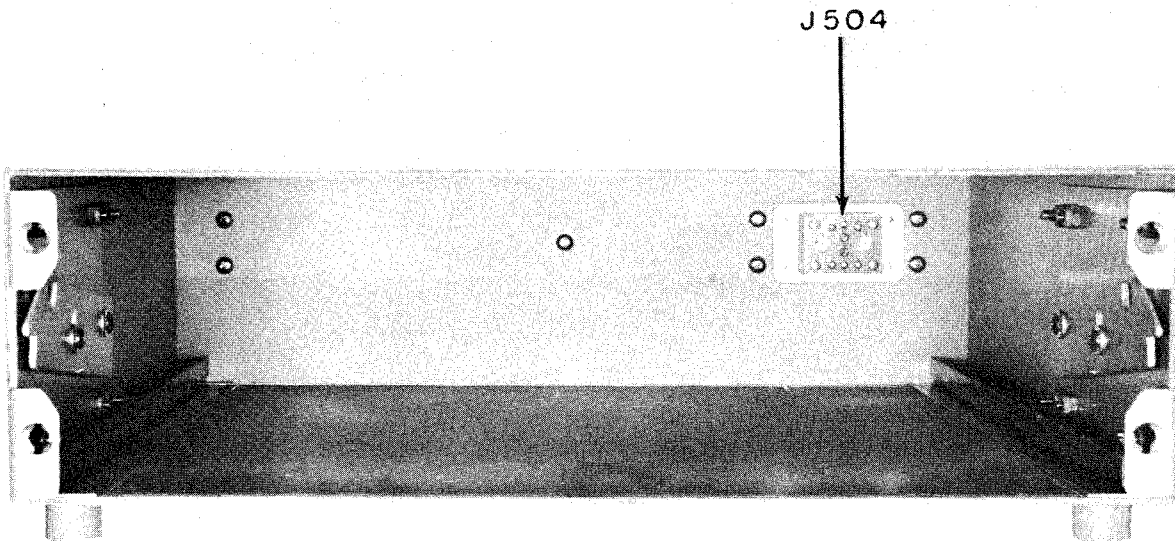

Figure 1-4. Photo—View into Cabinet, Inside Case Details
a. CABINET.—Figure 1-4 shows this unit. It is fabricated from aluminum alloy and finished in gray enamel. Guide rails located at the bottom of the cabinet facilitate removal and replacement of the receiver chassis assembly. When installed in a standard relay rack, the four mounting feet are removed and the two angle brackets are attached to the sides of the cabinet. Spring action side latches on each side of the case permit the receiver chassis to be withdrawn to a point where most of the top chassis components are accessible with the chassis still supported. When it is necessary to remove the chassis from the cabinet, the two latch levers are pressed down and the chassis is withdrawn (see figure 5-2). The receptacle connector (J504) which is visible at the right rear of the case interior is so located that, when the receiver chassis is inserted in the cabinet, the receptacle mates with a corresponding connector on the receiver Audio/Power Supply chassis.